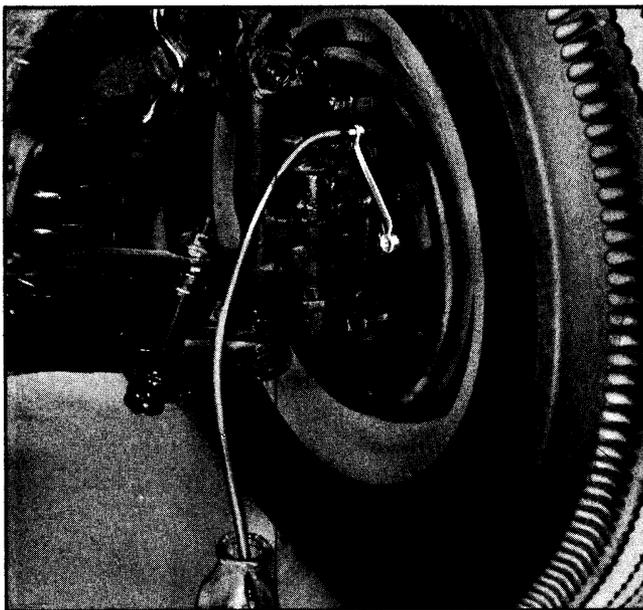

Fig. 7-7 Brake Bleeding Operation
1. Starting at left front wheel, remove screw from bleeder valve and attach bleeder tube, allowing tube to hang submerged in brake fluid in a clean glass jar. (See Fig. 7-7) Remove screw from bleeder valve, then unscrew bleeder valve three-quarters of a turn, depress pedal full stroke and allow it to return slowly making sure end of bleeder tube is under surface of liquid in container. Continue operating pedal until liquid, containing no air bubbles, emerges from bleeder tube.